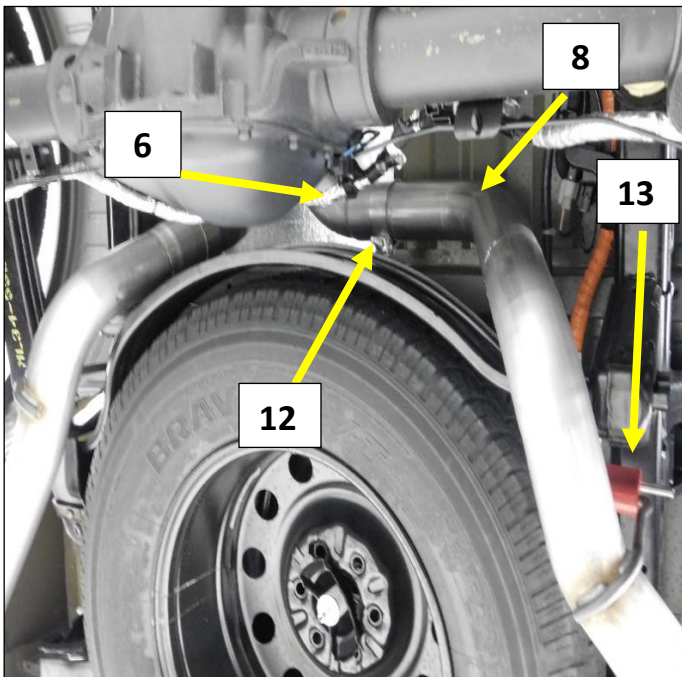

**Figure 12**
**Note:** Standard F150 models may already be in the correct location. PowerBoost clip nuts will move from the bottom of the frame rail to directly above and to the inside of the frame rail as shown. See **Fig 12** as reference.
3. Install the 535HA (17) frame hanger on to the inside left frame rail using the OEM mounting bolt. **Fig. 12**